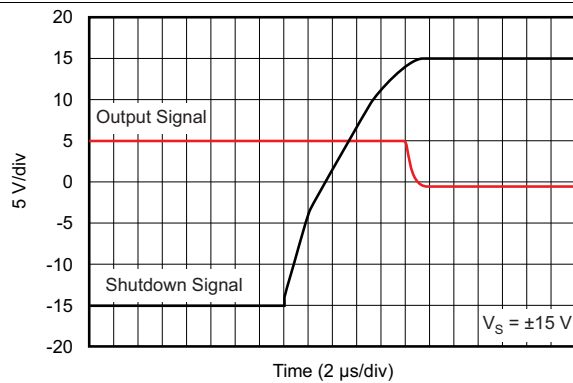

Figure 39. Turnoff Transient
(1) When disabled, the output assumes a high-impedance state.
(2) See Typical Characteristics curves (Figure 39 through Figure 41).
The shutdown (enable) function of the OPA211 is referenced to the positive supply voltage of the operational amplifier. A valid high disables the operational amplifier. A valid high is defined as (V+) – 0.35 V of the positive supply applied to the shutdown pin. A valid low is defined as (V+) – 3 V below the positive supply pin. For example, with V_{CC} at ±15 V, the device is enabled at or below 12 V. The device is disabled at or above 14.65 V. If dual or split power supplies are used, make sure the valid high or valid low input signals are properly referred to the positive supply voltage. This pin must be connected to a valid high or low voltage or driven, and not left open-circuit. The enable and disable times are provided in the Typical Characteristics section (see Figure 39 through Figure 41). When disabled, the output assumes a high-impedance state.